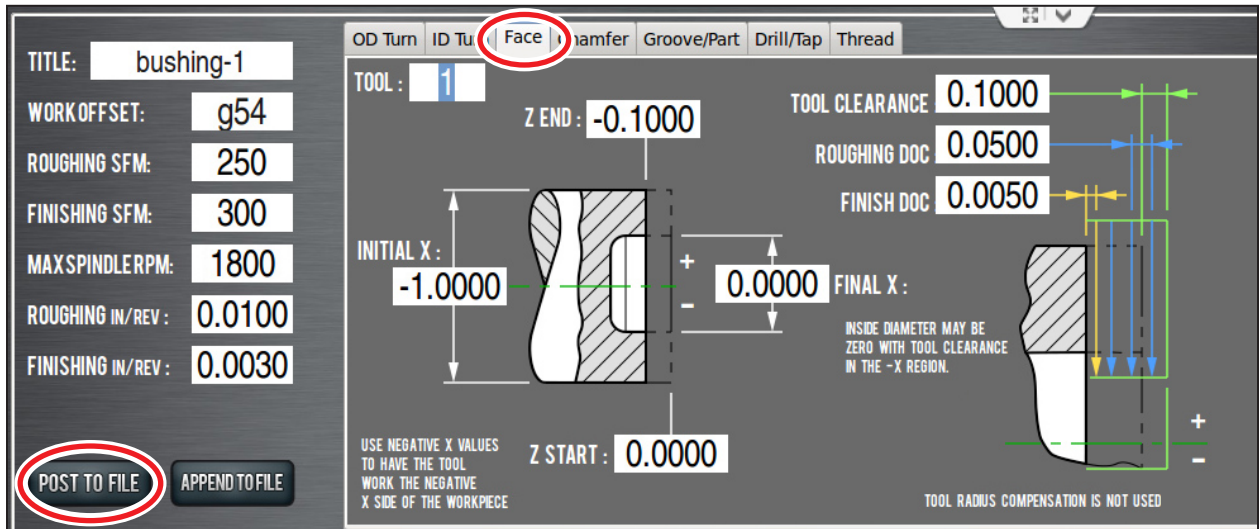

Figure 4.16
1. To write the code for the first operation, click the *Conversational* tab to bring up the conversational screens. Click the *Face* tab to bring up the facing screen (see **Figure 4.16**) to generate code to face the part back to Z of -0.100”.
2. Enter the values as shown in **Figure 4.16**.
3. Click *Post to File* on the *Face* tab to save the G-code (see **Figure 4.16**).